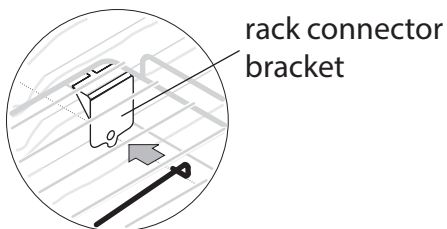

Figure 16: Bracket must be at rear of the range
3. Place the oven rack in positions 2, 3, or 4 only. Be sure the rack connector brackets are at the rear of the range and pointing towards oven bottom (See Figure 16).